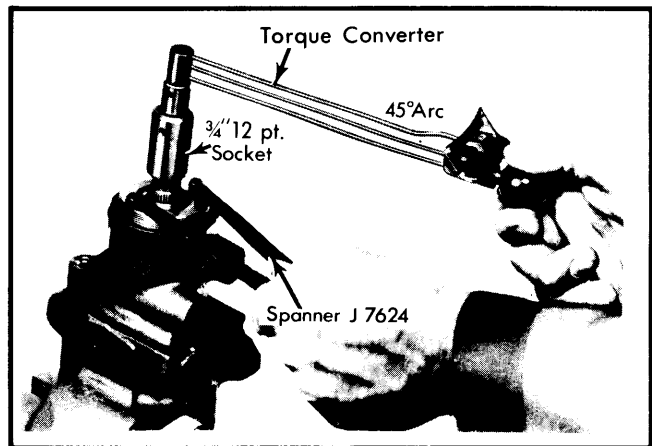

Fig. 2 Thrust Bearing Preload Adjustment (Large Gear Shown)
2) Scribe an index mark on housing and adjuster plug, then measure $\frac{1}{2}$ " counterclockwise ($\frac{3}{16}$ "- $\frac{1}{4}$ " on American Motors models) and mark housing. Back up adjuster plug so mark aligns with new mark on housing and tighten lock nut while holding adjuster plug to maintain position. Check for 4-10 INCH Lbs. torque required to turn stub shaft. See Fig. 2.